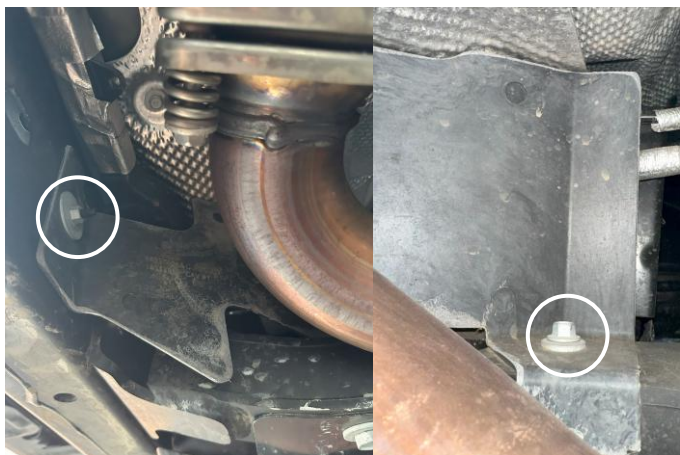

Figure 13: Fuel-line shield bolts (passenger side)
- ☐ Remove the plastic fuel-line shield on the passenger side (Figure 13). If you have already installed the Front Long Arm Upgrade Kit, this shield will not be present. It will not be reused once the upgrade kit is installed